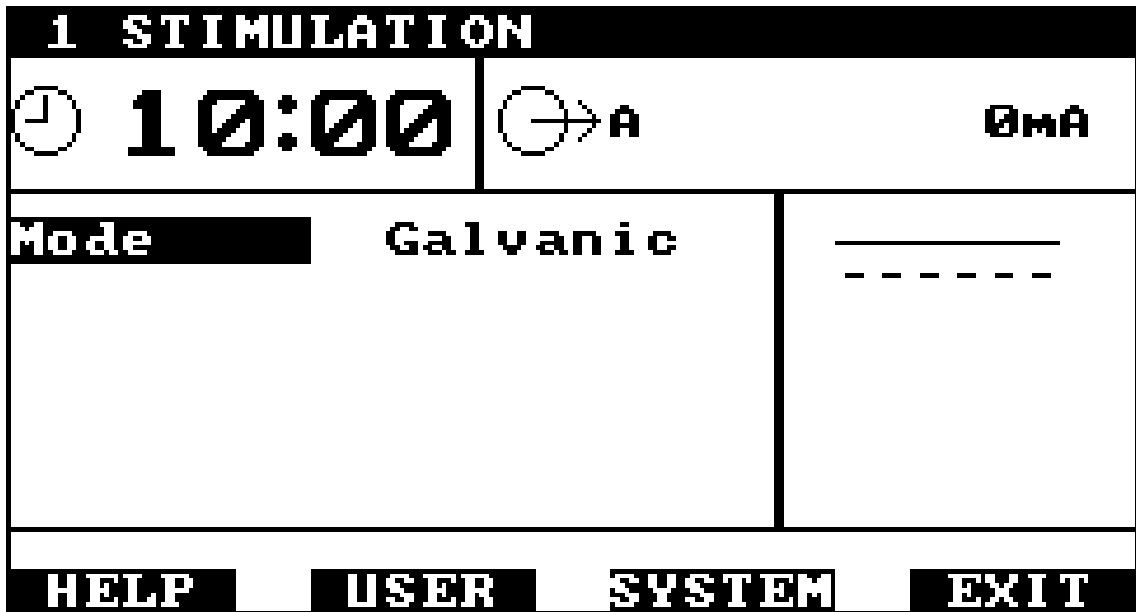

Figure 18 - Galvanic set-up screen
15. In the galvanic mode the Stimulation module produces a constant current dc output (yellow lead positive). There are no additional settings. Figure 18 shows the galvanic mode set-up.